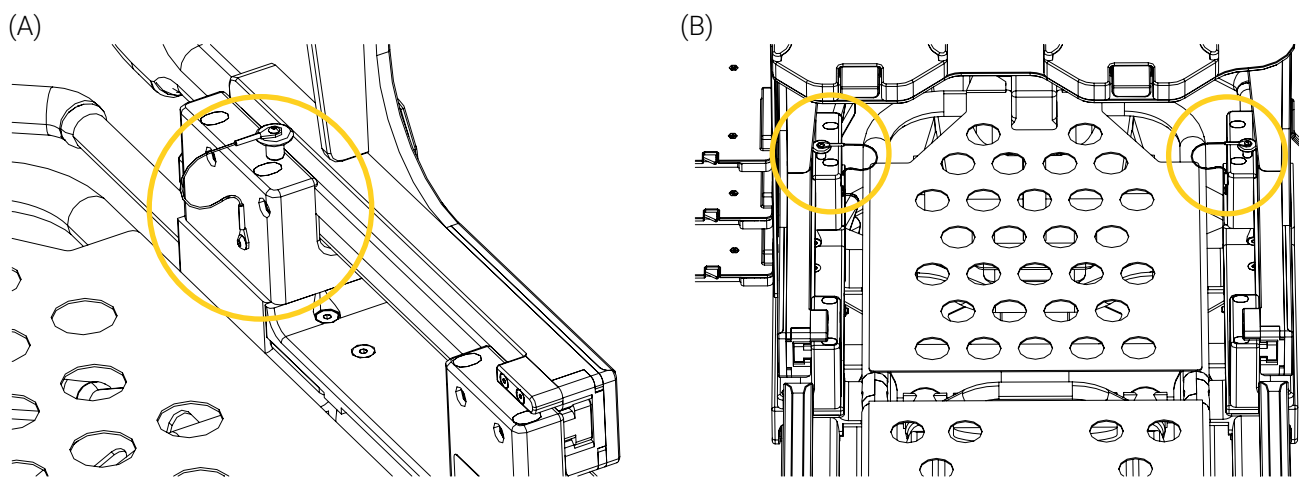

Figure 6: Lock pins
1. Ensure the lock pins on the mobile structure are correctly inserted on both sides, prior to installing the medical devices or performing a lateral transfer (Figure 6).